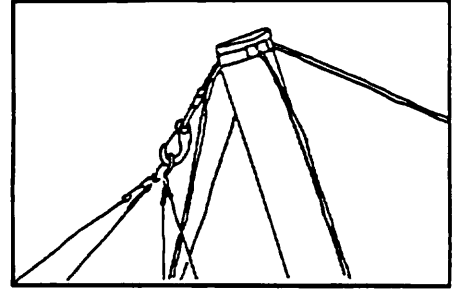

Figure 11
6) Attach the bridle ring to the bridle snap clip, making sure that the bridle cables are not twisted, and that the bridles are *outside* the top rear wire. (Figure 11)